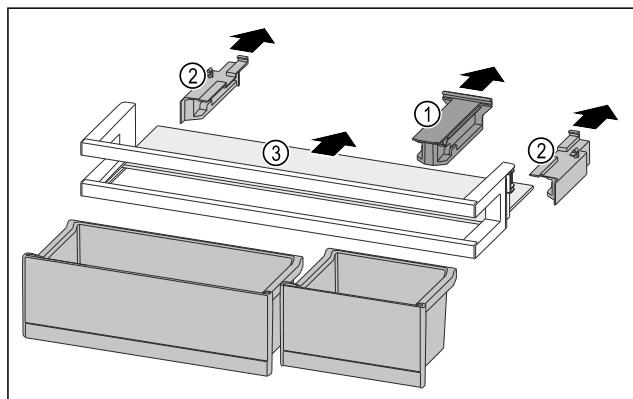

Fig. 117
- ▶ Pull off the holding part Fig. 117 (1).
- ▶ Pull off the side parts Fig. 117 (2).
- ▶ Remove the shelf Fig. 117 (3).